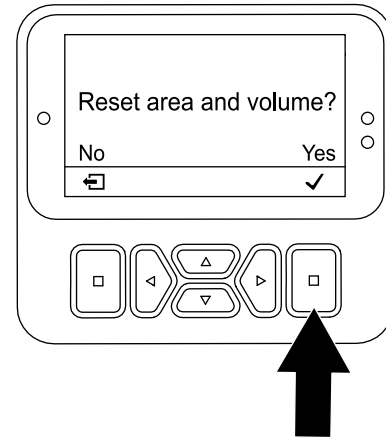

Figure 101
- In the RESET AREA AND VOLUME SCREEN, press the select button (Figure 101).